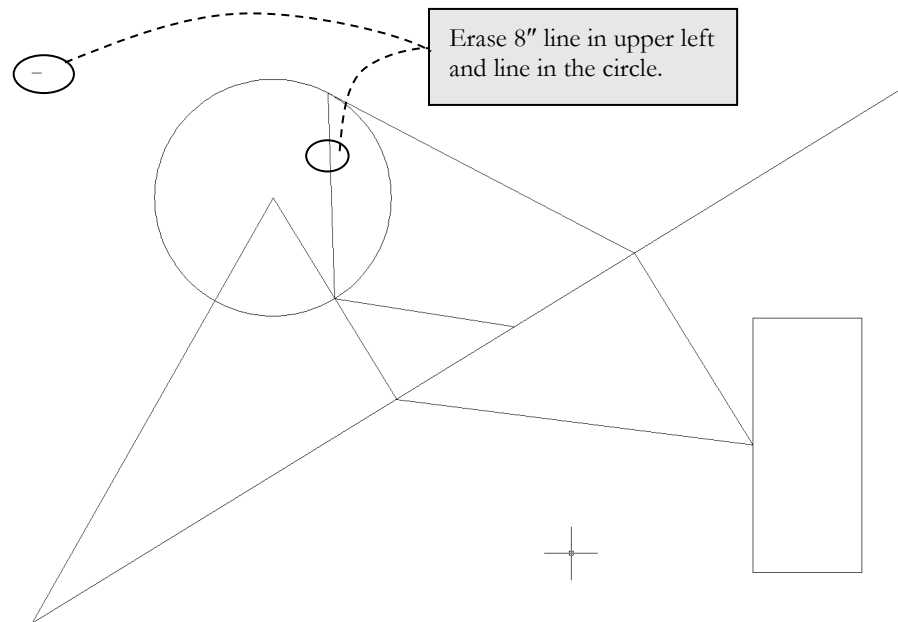

FIGURE 3-3.2 Lines to be erased
3. While holding the **Ctrl** key, select the lines identified in **Figure 3-3.2**.
***TIP:** See the section below Figure 3-3.2 on Selecting Entities.*